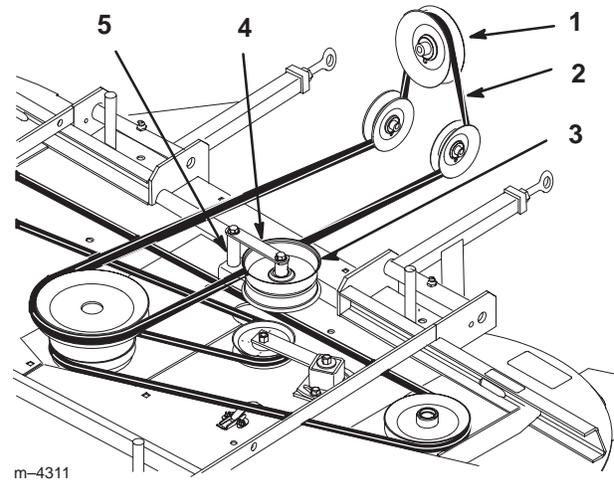

Figure 55
3. Remove PTO drive belt from clutch, around rear idler pulleys and off of mower top center pulley (Fig. 55).
4. Remove bolt, nut, washer and spacer from idler pulley bracket assembly. Remove belt from bracket assembly (Fig. 55).
6. Install belt into idler pulley bracket assembly. Install bolt, nut, washer and spacer into assembly (Fig. 55).